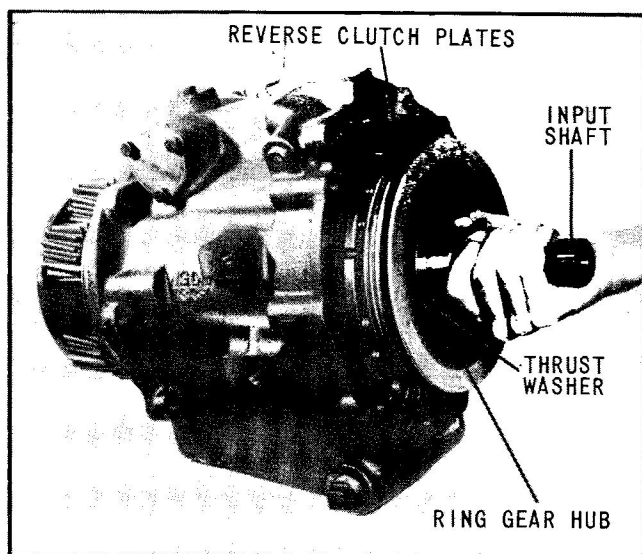

Fig. 16 Pull Input Shaft from Transmission
8. Pull input shaft forward to remove ring gear, pinion cage assembly and remaining reverse clutch plates from transmission, (Fig. 16).